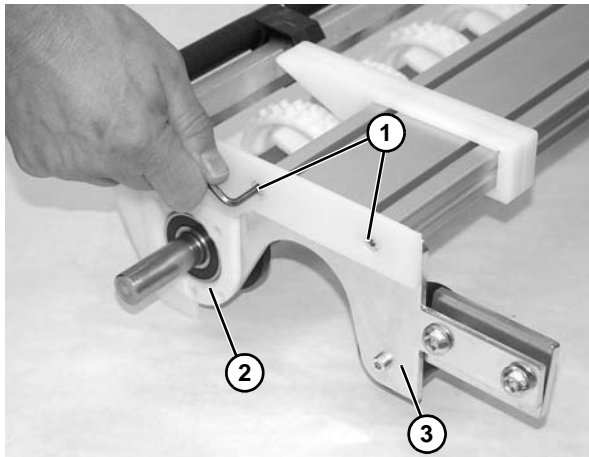

Figure 66
7. Remove two socket head screws (**Figure 66, item 1**) holding nose bar spacer (**Figure 66, item 3**) and nose bar backing plate (**Figure 66, item 2**) from crossmember.